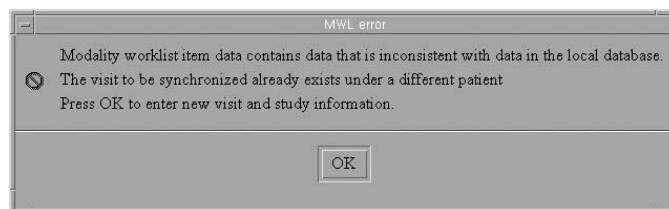

Figure 6-10: Conflict Between the Worklist and Local Database
1. Click **OK** in the MWL error data box (Figure 6-10). A New Procedure dialog box appears.